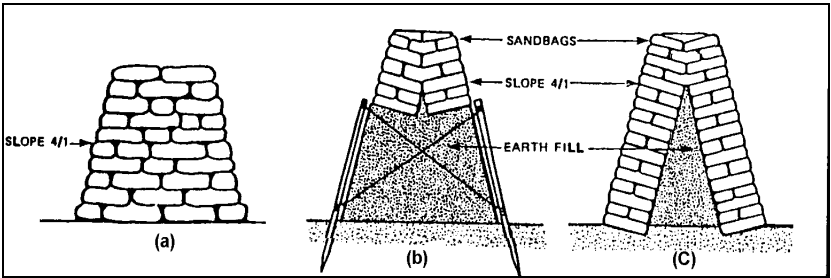

Fig 9-3-3 Sandbag Walls
5. **Free Standing Walls.** The designs for free standing walls that may provide protection against blast at entrances to shelters, vehicle pits or aircraft bays are shown in Fig 9-3-3. If the wall is more than 1.5 m high, it is better to use one of the designs at (b) or (c) in Fig 9-3-3 rather than making it entirely of sandbags as in Fig 9-3-3 (a).